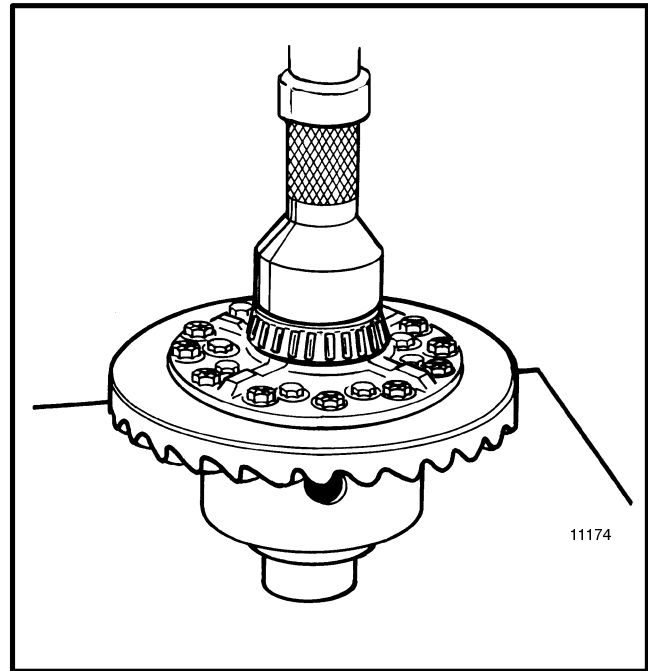

FIGURE 16. INSTALLATION OF THE BEARING CONES
- g. Install the bearing cones on the differential case. See FIGURE 16.